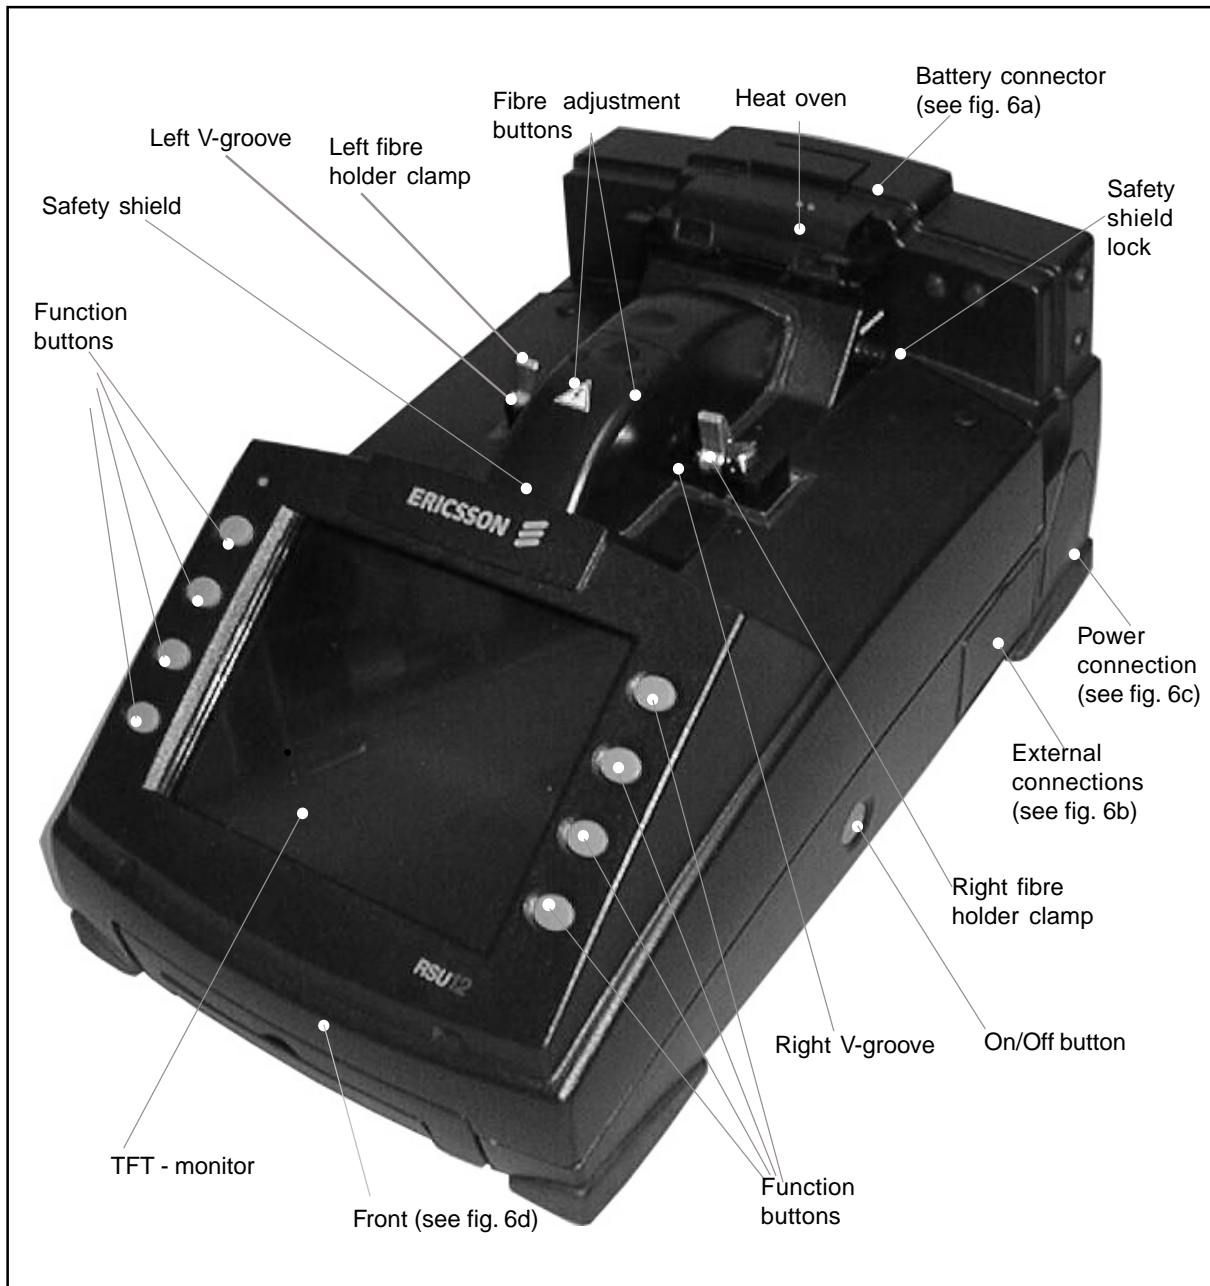

Fig. 6 - Total overview of external parts
5. Lock the safety shield during transport (fig 6 pg. 6).